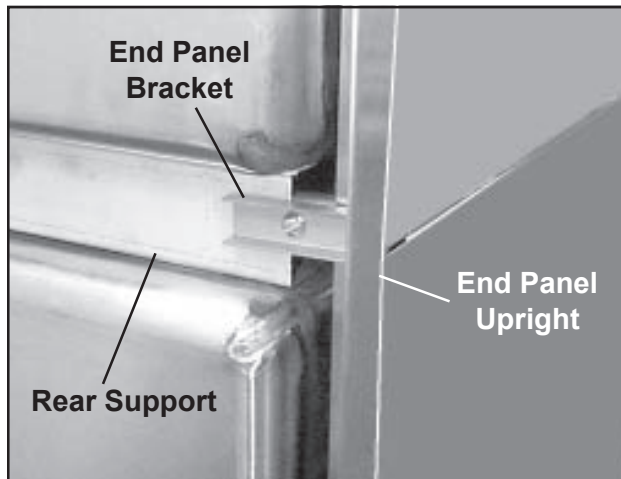

Figure 44. End Panel Bracket Mounted Between Rear Support and End Panel Upright
2. Slide the bracket between the rear support on top of the bottom cage and the upright (Figure 44).